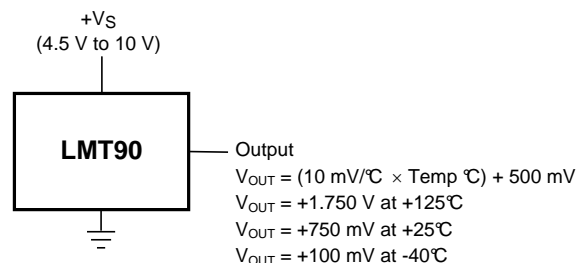

图 2. 全范围摄氏温度传感器（-40°C 至 +125°C）
Unless otherwise noted, these specifications apply for $V_S = +5 V_{DC}$ and $I_{LOAD} = +0.5 \mu A$, in the circuit of Figure 2. **Boldface limits apply for the specified $T_A = T_J = T_{MIN}$ to T_{MAX}** ; all other limits $T_A = T_J = +25^\circ C$, unless otherwise noted.
- (1) Limits are specific to TI's AOQL (Average Outgoing Quality Level).
- (2) Accuracy is defined as the error between the output voltage and $10 \text{ mV}/^\circ C$ times the device's case temperature plus 500 mV, at specified conditions of voltage, current, and temperature (expressed in $^\circ C$).
- (3) Nonlinearity is defined as the deviation of the output-voltage-versus-temperature curve from the best-fit straight line, over the device's rated temperature range.
- (4) Regulation is measured at constant junction temperature, using pulse testing with a low duty cycle. Changes in output due to heating effects can be computed by multiplying the internal dissipation by the thermal resistance.
- (5) Quiescent current is defined in the circuit of Figure 2.
- (6) For best long-term stability, any precision circuit will give best results if the unit is aged at a warm temperature, and/or temperature cycled for at least 46 hours before long-term life test begins. This is especially true when a small (Surface-Mount) part is wave-soldered; allow time for stress relaxation to occur. The majority of the drift will occur in the first 1000 hours at elevated temperatures. The drift after 1000 hours will not continue at the first 1000 hour rate.